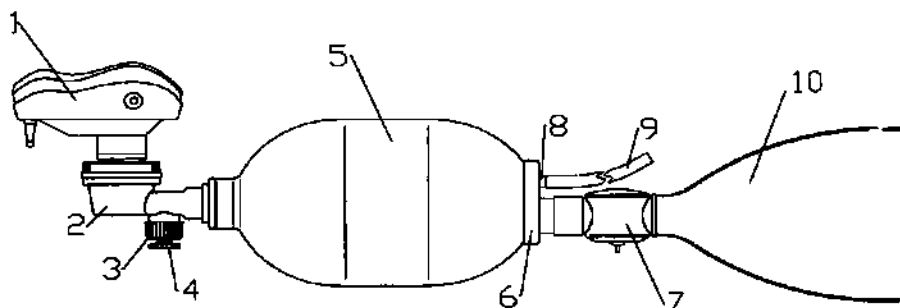

Рис. 1
6.1. Комплекты дыхательные для ручной ИВЛ имеют аналогичную конструкцию, differing by volumes of respiratory and reserve bags, mask sizes, depending on the patient's age. The manual IRL respiratory kit meets international and national standards and consists of (see fig. 1) a self-actuating silicone respiratory bag (5) with an inspiratory valve (6) and a patient valve (2), to which a face mask (1) is attached. All face masks are designed taking into account the ages of patients and anatomical features, made of transparent silicone, which gives an additional possibility to see the change in the color of the patient's lips during resuscitation measures.